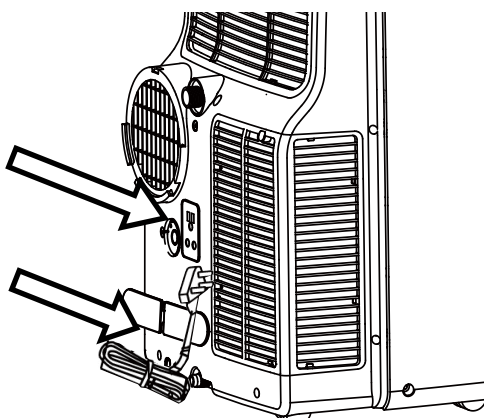

Fig. 7d
- Wrap the cord using the Power Cord Buckle and insert the plug into the Power Plug Socket. (Fig. 7d)